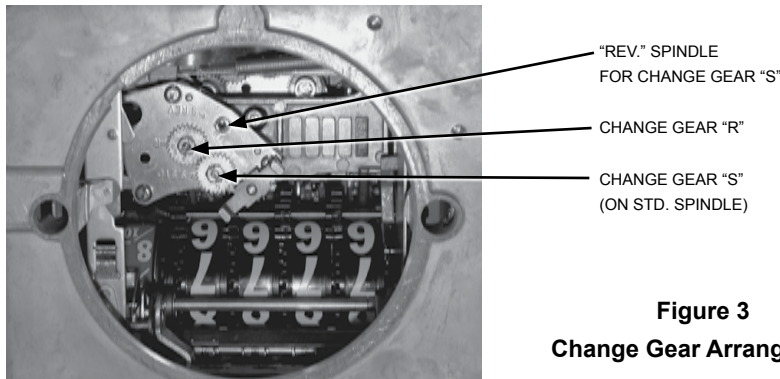

Figure 3
When one register is removed and another substituted, (1) Check the number of teeth on the change gears (*Figure 3*). They must be the same as the gears on the old register **and on the same respective spindles**. The number of teeth is stamped on each gear. To remove these gears, close the split end of the spindle with a pair of pliers and pull off the gear. After putting on a gear, spread the end of the spindle slightly. (2) Make sure that the position of the "Gear shifter" is the same on the new register as on the old one. Each hole is lettered for convenience.